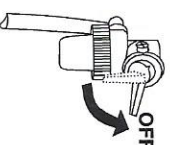

Figure 28. Engine Fuel Valve Lever (OFF)
- Place engine fuel valve lever (Figure 28) in the **OFF** position.